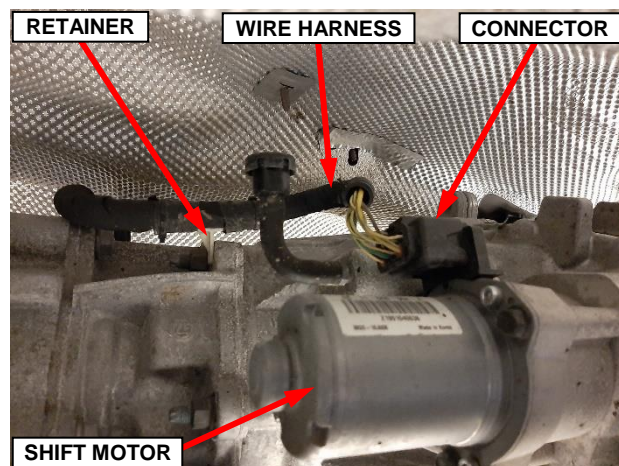

Figure 14 – Transfer Case Shift Motor Wire Harness Connector
19. Disconnect the wire harness connector from the transfer case shift motor and release the wire harness retainer from the transfer case adapter (Figure 14).
12. Connect the wire harness connector to the transfer case shift motor and attach the wire harness retainer to the transfer case adapter (Figure 14).